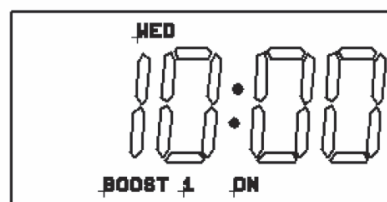

Figure B-19: One hour boost ON
- Press '-' (boost) once in normal operating mode turns on for 1 hour period. Refer to Figure B-19.